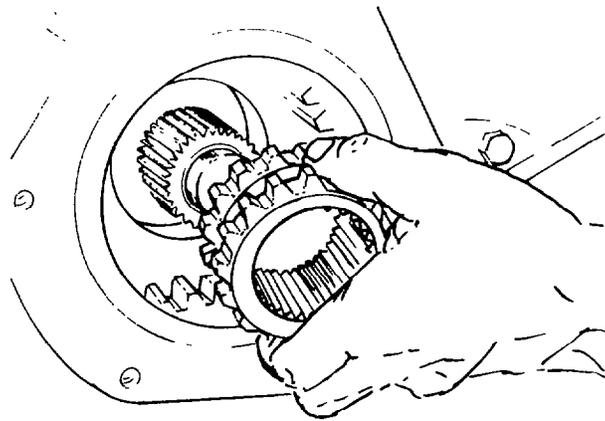

Fig. 210 — Installing Fourth/Fifth Gear Sliding Clutch
- y. Install the fourth/fifth gear sliding clutch and engage with fourth gear (see fig. 210).